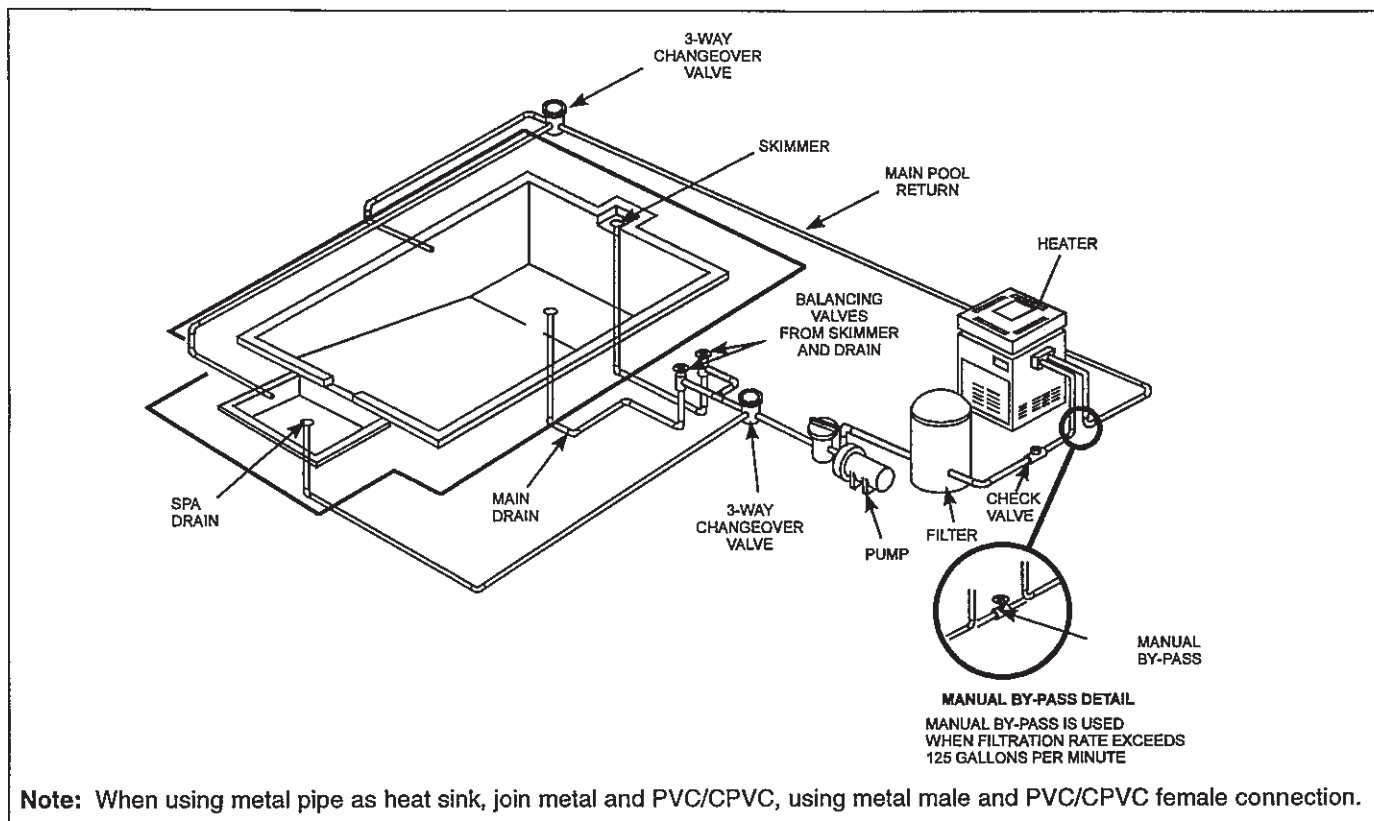

Figure 19. Typical installation.
- b. The system's water flow exceeds 125 GPM (474 LPM), and requires a manual bypass valve for proper operation (see Figure 19).